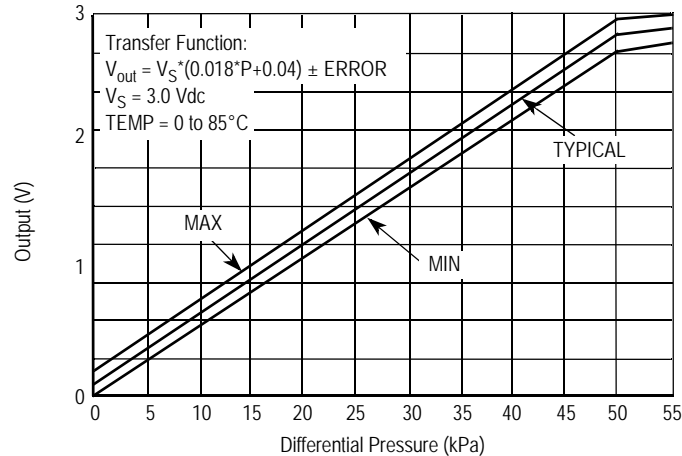
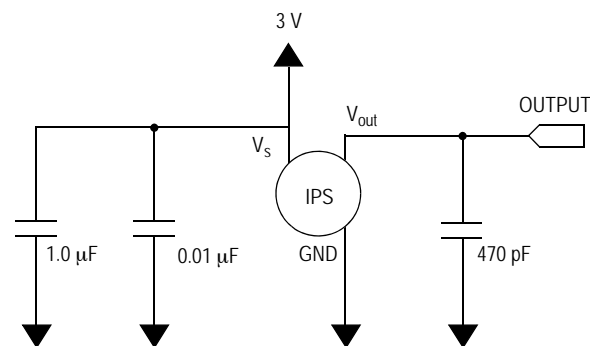

Figure 2. Output vs. Pressure Differential
Figure 4. Recommended Power Supply Decoupling and Output Filtering
**Table 1. Operating Characteristics** ( $V_S = 3.0$  Vdc,  $T_A = 25^\circ\text{C}$  unless otherwise noted,  $P_1 > P_2$ . Decoupling circuit shown in Figure 4 required to meet electrical specifications.)
Figure 2 shows the sensor output signal relative to pressure input. Typical, minimum, and maximum output curves are shown for operation over a temperature range of 0° to 85°C using the decoupling circuit shown in Figure 4. The output will saturate outside of the specified pressure range.
Figure 4 shows the recommended decoupling circuit for interfacing the output of the integrated sensor to the A/D input of a microprocessor or microcontroller. Proper decoupling of the power supply is recommended.